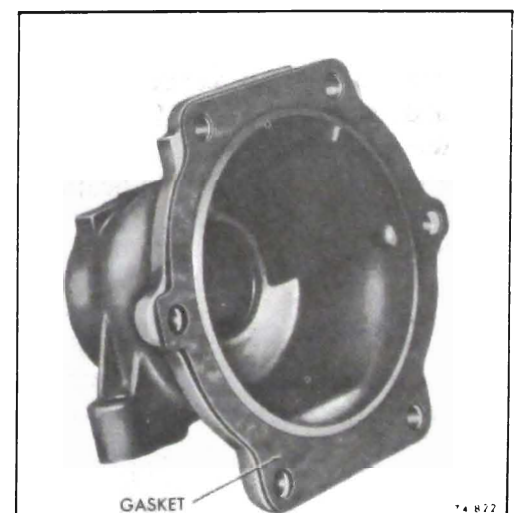

Figure 76-538
3. Remove extension housing and extension housing to case gasket. See Figure 76-538.